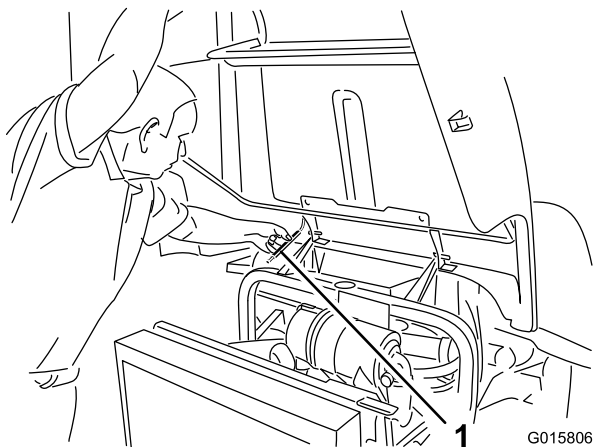

Figure 31
2. Lift up on the hood until the prop rod can be positioned behind the frame tube (Figure 31).